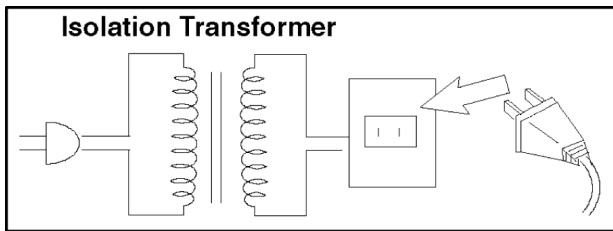

Fig. 1
1. It is advisable to insert an isolation transformer in the AC supply before servicing a hot chassis. Fig. 1.
## 1.3. Leakage Current Hot Check (See Fig. 1)